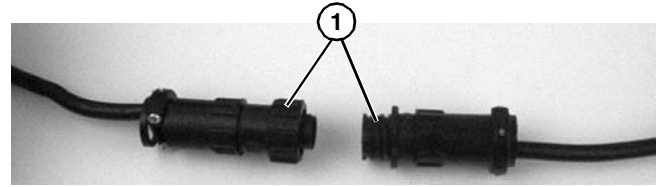

Figure 28
3. For DC variable speed motor, unplug motor cord at disconnect (**Figure 28, item 1**).